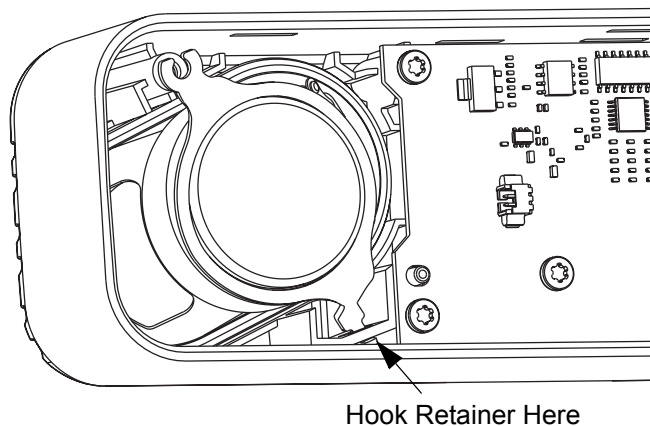

Figure 5-28 Speaker Retainer Assembly
- b. Hook one side of the speaker retainer into the control head assembly as shown in Figure 5-28.